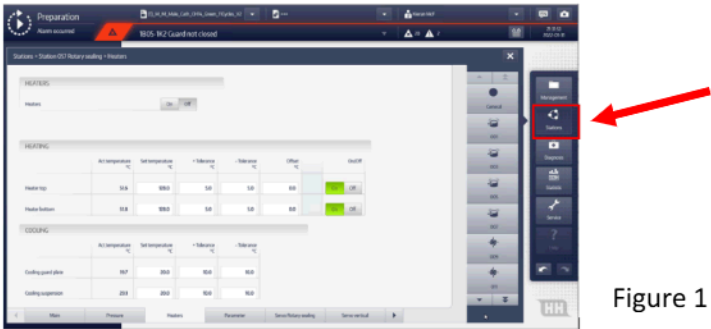

Figure 1
- 1. Press the stations button on the HMI (Figure 1)